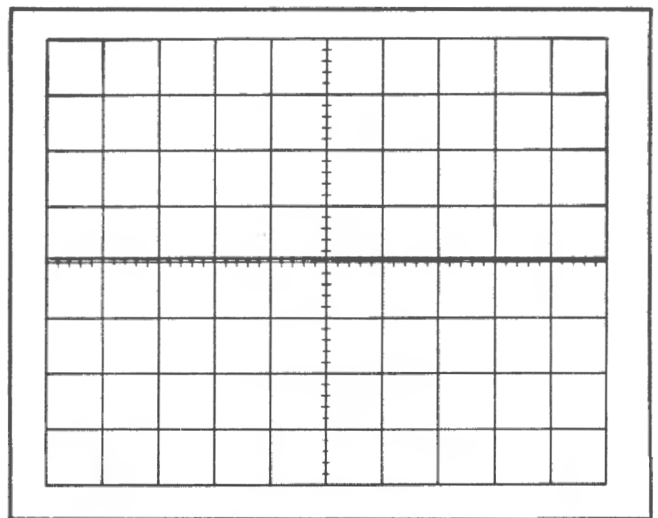

Fig. 6-29. Typical CRT display showing correct channel isolation.
- f. CHECK—CRT display 0.1 division or less in amplitude (channel isolation 100,000:1 or greater; see Fig. 6-29).
- i. CHECK—CRT display 0.1 division or less in amplitude (channel isolation 100,000:1 or greater; see Fig. 6-29).